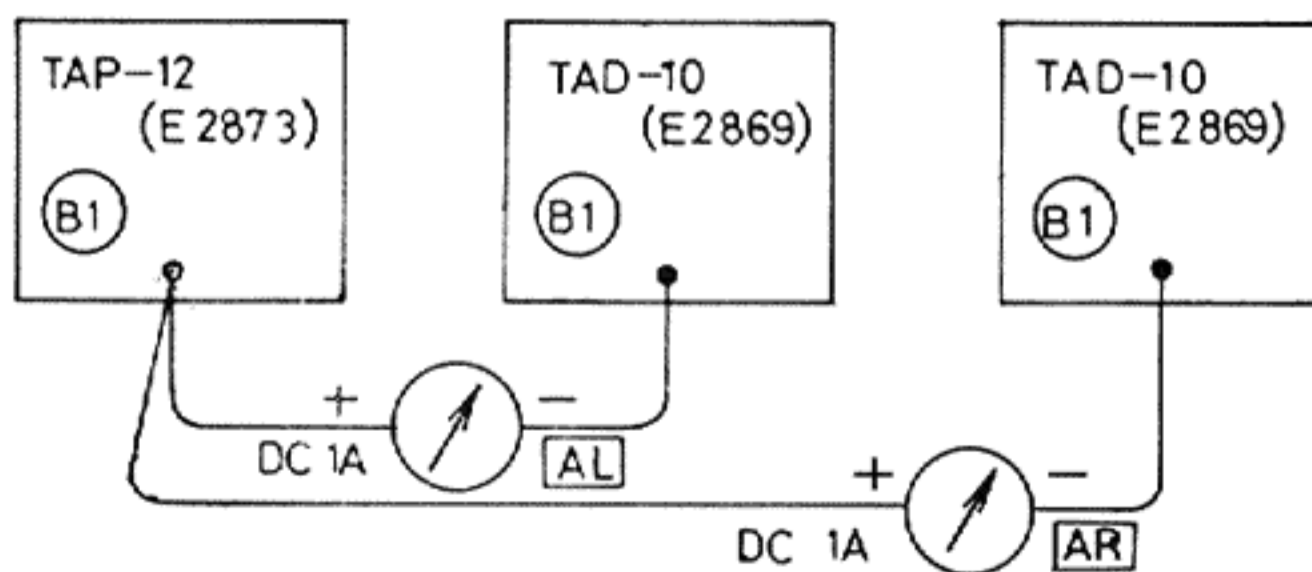

Fig. 16
- Connect an 1A D. C. amperemeter [AL], [AR] in series with B1 wirings for L. channel and R. channel respectively as shown in Fig. 16.